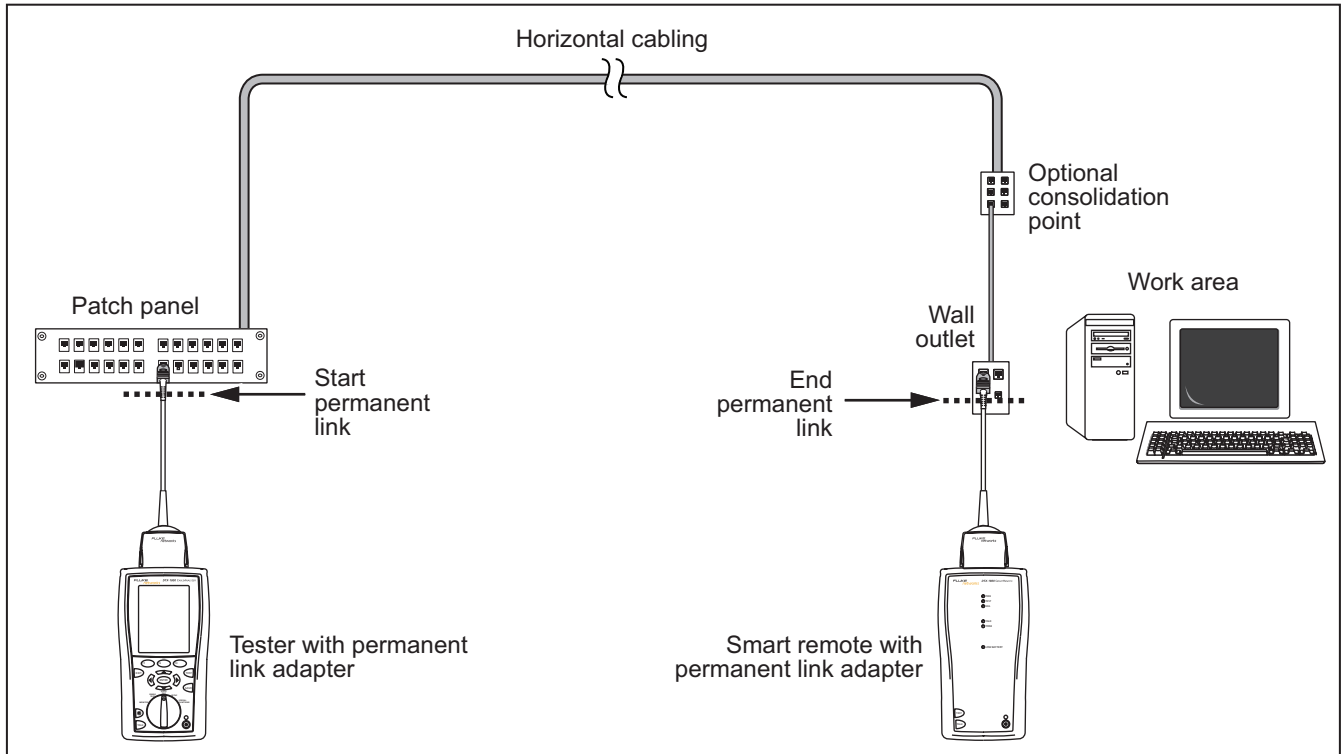

Figure 2-4. Permanent Link Test Connections
- 3-2** Turn on the tester and smart remote; then connect them to the cabling. Figures 2-4 and 2-5 show connections for permanent link and channel installations.